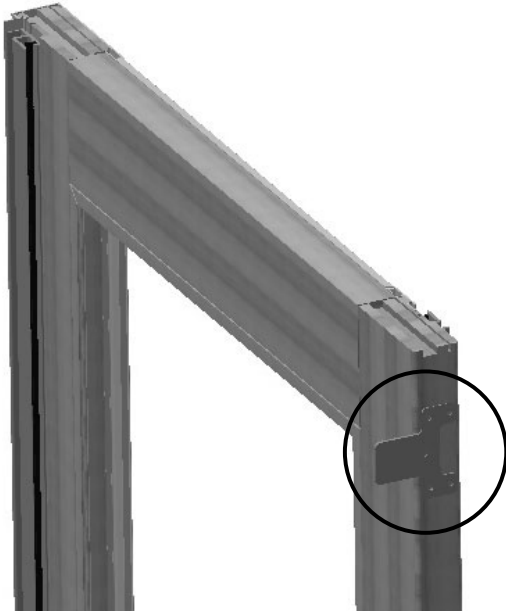

FIG. 16
- A) All panel types are identified with a sticker (lead, intermediate, stacking or pocket). Install the collector plates on the intermediate panels as shown in Fig. 16.